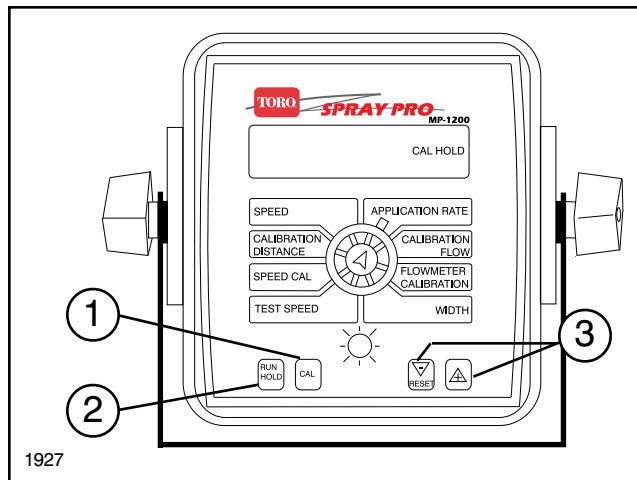

FIG. 2
To activate the Metric mode, turn ignition switch "OFF" and place the rotary switch at "APPLICATION RATE." Hold down both the "CAL" and "-" keys and turn power ON (See FIG. 2). The console will display Metric measurements. Once powered up, release the two keys. To "lock-in" Metric mode you must enter calibration. Press and HOLD the CAL key until "CAL" lights on the display. The console is now in calibration and Metric mode is locked-in. Exit CAL by pressing and holding the "CAL" key until CAL disappears from the display (approximately 3 seconds).
2. Press and hold the "CAL" key for three seconds to select the calibration mode. The console display will read "CAL" (See FIG. 2), and the red warning light will turn on.